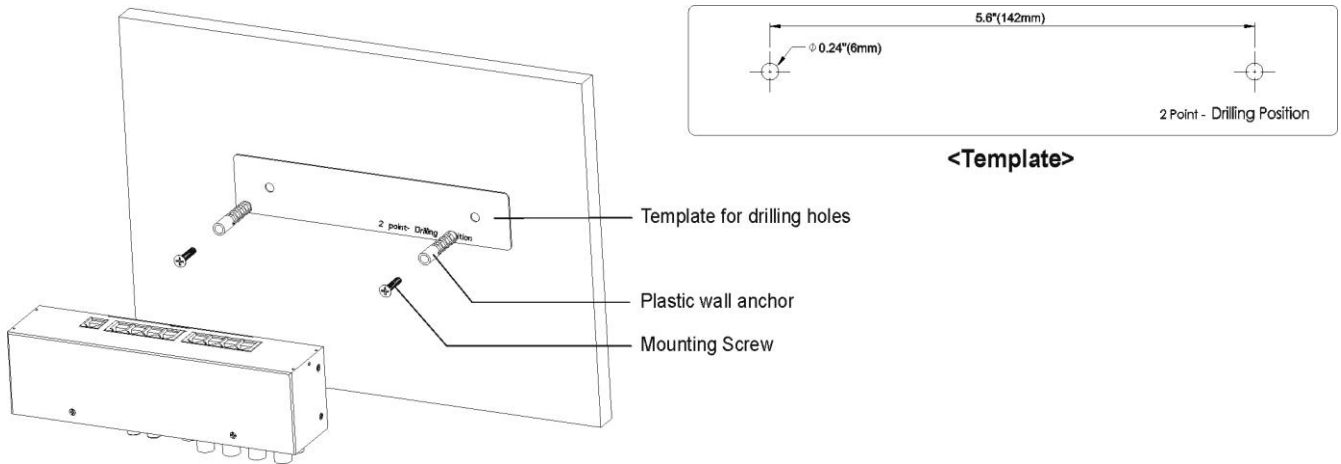

Figure 1
- A. When using the supplied plastic wall anchors, drill two 0.24" (6mm) holes spaced 5.6" (142mm) apart or use the template. See Figure 1.